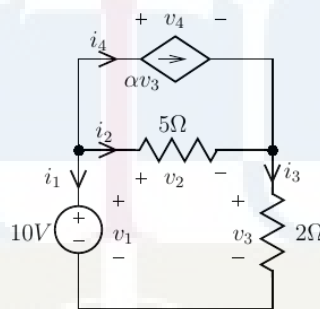

Figure 2:  $\alpha = 0.5$
- (b). Explain how ‘damping’ can be used to improve convergence in nonlinear equation solutions using Newton-Raphson method. (4)
12. (a). For the circuit shown in Fig. 2, formulate the Sparse Tableau Analysis (STA) matrix from the fundamental equations. Take  $\alpha=0.5$ . (10)